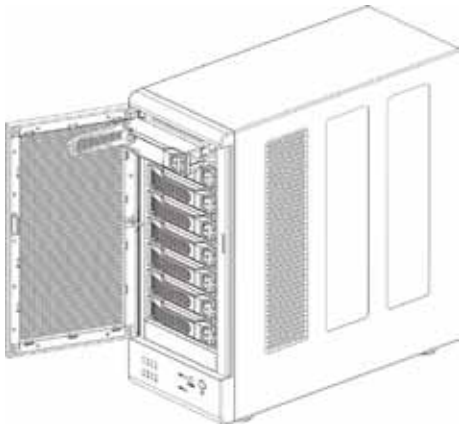

Fig. 1
1. Open the front door, then unlock the HDD mounting frame lock and remove the HDD mounting frame from the 8-BAY RAID STATION (fig. 1).